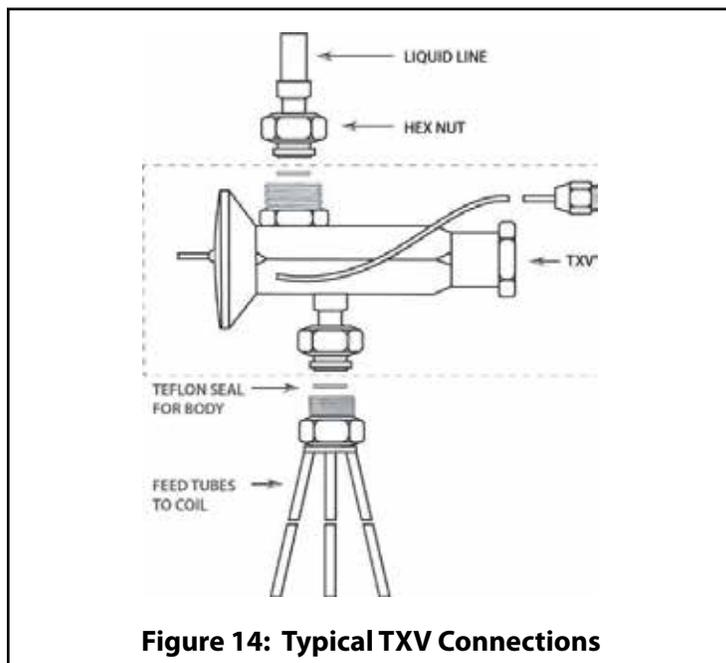

Figure 14: Typical TXV Connections
5. As shown in Figure 14, the TXV assembly must be installed between the distributor and the liquid line connector.